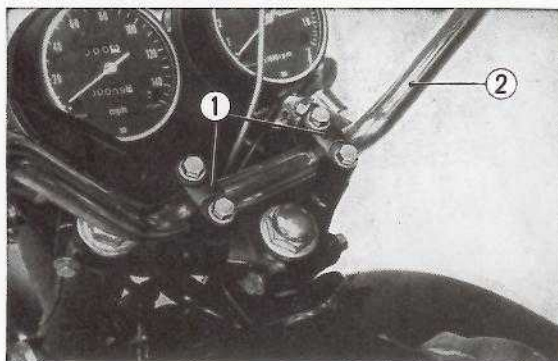

Fig. 11-3 ① Upper handle holders
4. Remove the two upper handle holders and then remove the handle bar. (Fig. 11-3)